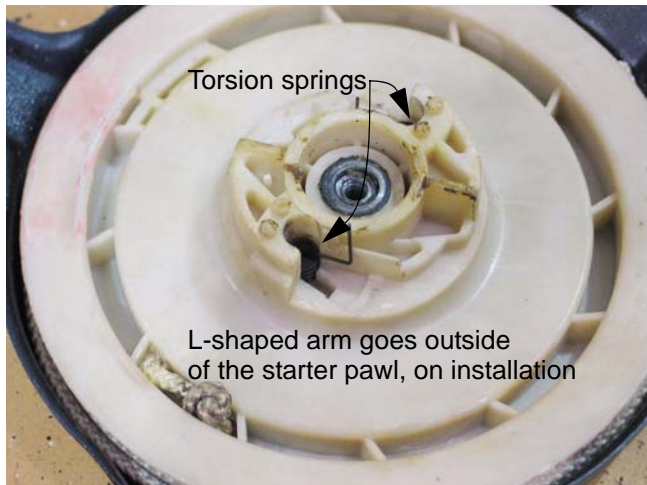

**Figure 6.9**
2. Remove the shoulder screw and pressure plate using a 10 mm wrench. See Figure 6.9.